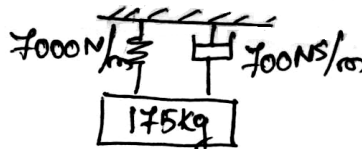

Fig Q4(b)
- b. A spring mass damped system shown in Fig Q4(b) determine :